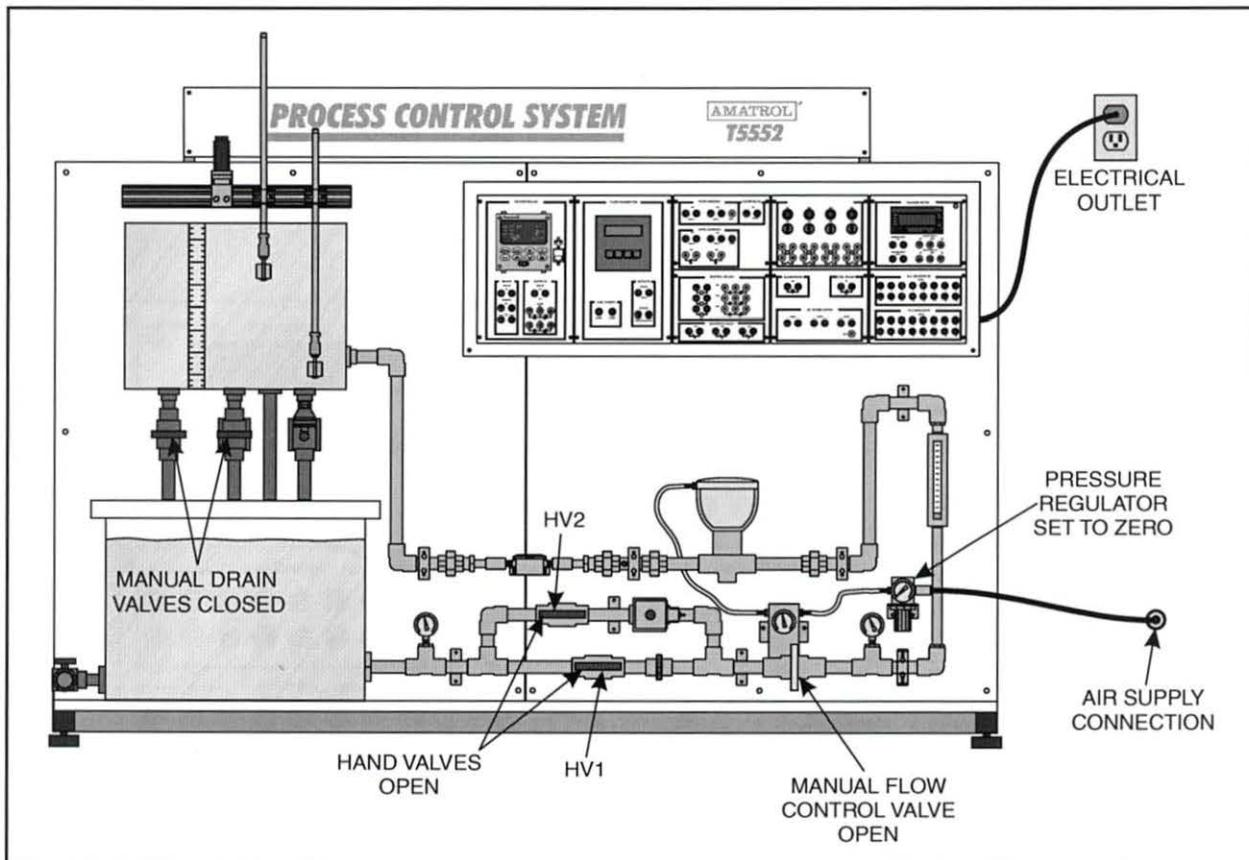

Figure 57. T5552 Setup
- 2. Perform the following substeps to set up the T5552, as shown in figure 57.